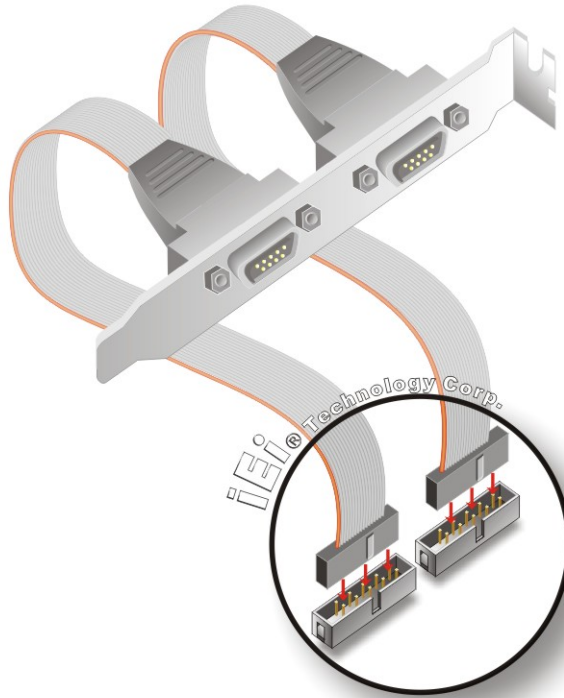

Figure 5-13: Dual RS-232 Cable Installation
Step 2: Insert the cable connectors. Insert one connector into each serial port box headers. See Figure 5-13. A key on the front of the cable connectors ensures the connector can only be installed in one direction.